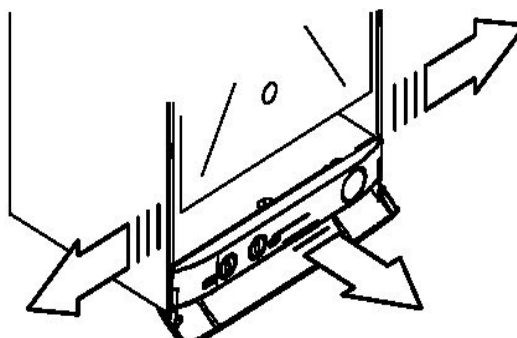

Fig. 5.35
3. Move the lower part of the side panels as indicated in Fig. 5.35 and pull the control panel. When completely pulled out, the panel can rotate 45° downwards to facilitate the operations on the internal parts.